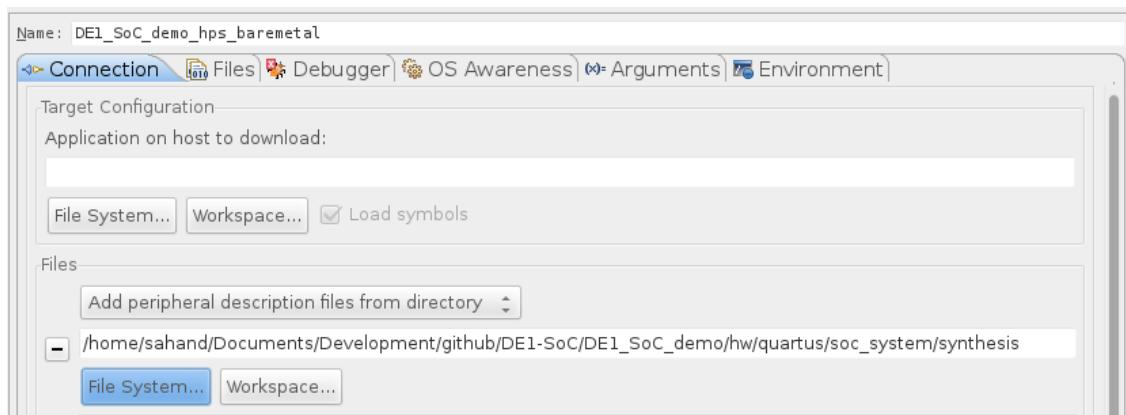

Figure 12-6. Debug Configuration "Files" Tab
- In 9.3.2, we configured our HPS to use some FPGA peripherals. We can instruct the debugger about this so it can show more detailed information when debugging. To do this, set the combobox to “Add peripheral description files from directory” and set it to the “DE1_SoC_demo/hw/quartus/soc_system/synthesis” directory, as shown in Figure 12-6. This directory contains a file called “soc_system_hps_0.hps.svd” which has information on all of the HPS’ peripherals which are in the FPGA fabric.